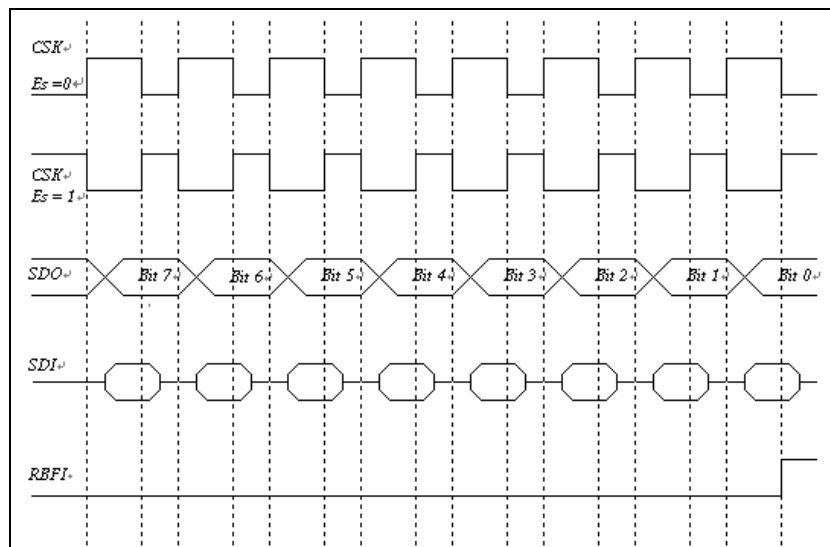

Fig. 5-12 SPI Mode with /SS Disabled
- Timing is shown in Fig. 5-12 and 5-13.
- Timing is shown in Fig. 5-12 and Fig. 5-13
- Timing is shown in Fig. 5-12 and Fig. 5-13.
The edge of SCK is selected by programming bit CES. The waveform shown in Fig. 5-12 is applicable regardless whether the EM78452 is in master or slave mode with /SS disabled. However, the waveform in Fig. 5-13 can only be implemented in slave mode with /SS enabled.